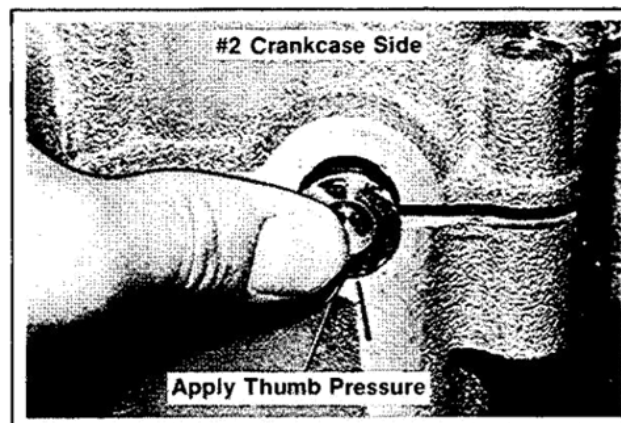

Figure 11-18. Installing #2 Crankcase Side.
4. Place the #2 crankcase side on the #1 side. Apply thumb pressure on the plug as the sides are brought together. Maintain pressure on the plug as the crankcase fasteners are installed and tightened. This ensures the plug shoulder is bottomed tightly against the crankcase. Refer to Figure 11-18.